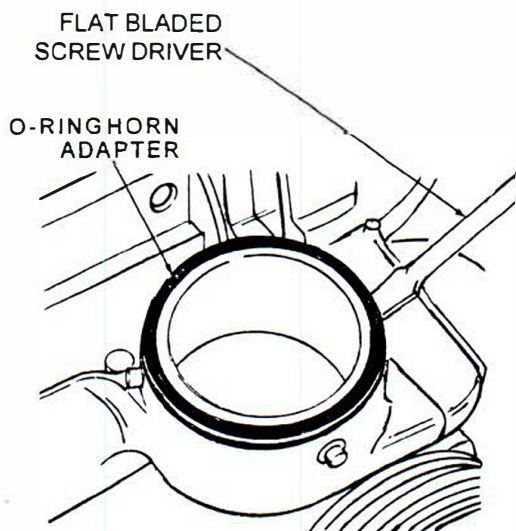

Figure 12. O-ring Horn Adapter Removal
- A. See Figure 12. Remove the o-ring horn adapter using a flat bladed screw driver between the gasket and basepan. Twist the blade while prying the adapter upward.